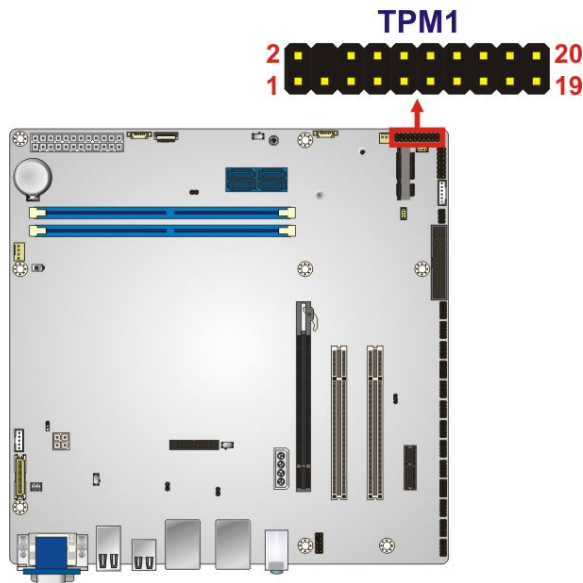

Figure 3-32: TPM Connector Location
- CN Location:** See **Figure 3-32**